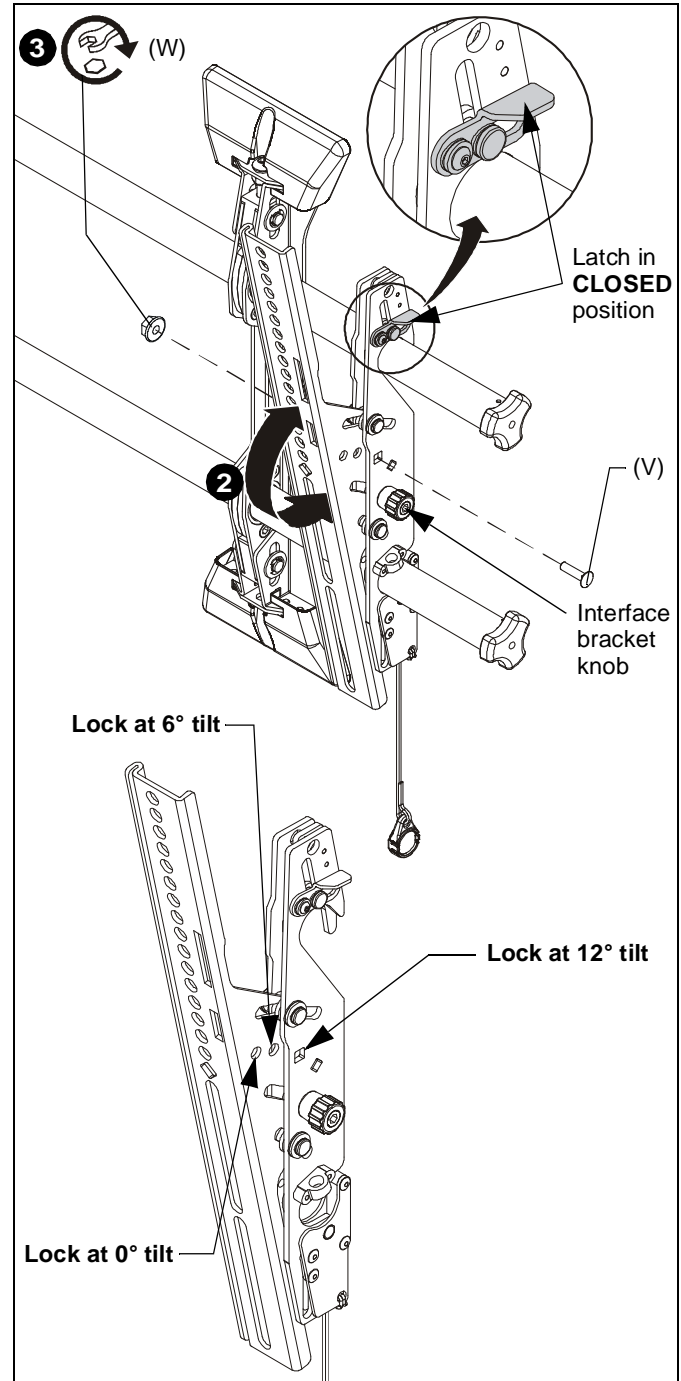

Figure 14
3. (MTM1U / LTM1U only) Move latch on top of interface brackets to CLOSED position. (See Figure 14)
2. Adjust tilt as required. (See Figure 14)
3. The tilt may be locked at  $0^{\circ}$ ,  $6^{\circ}$  or  $12^{\circ}$  using one 1/4-20 x 1" round head carriage bolt (V) and one 1/4-20 hex nut (W) per interface bracket. (See Figure 14)